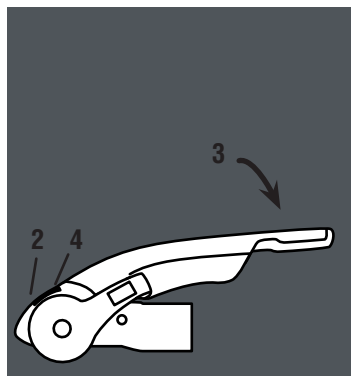
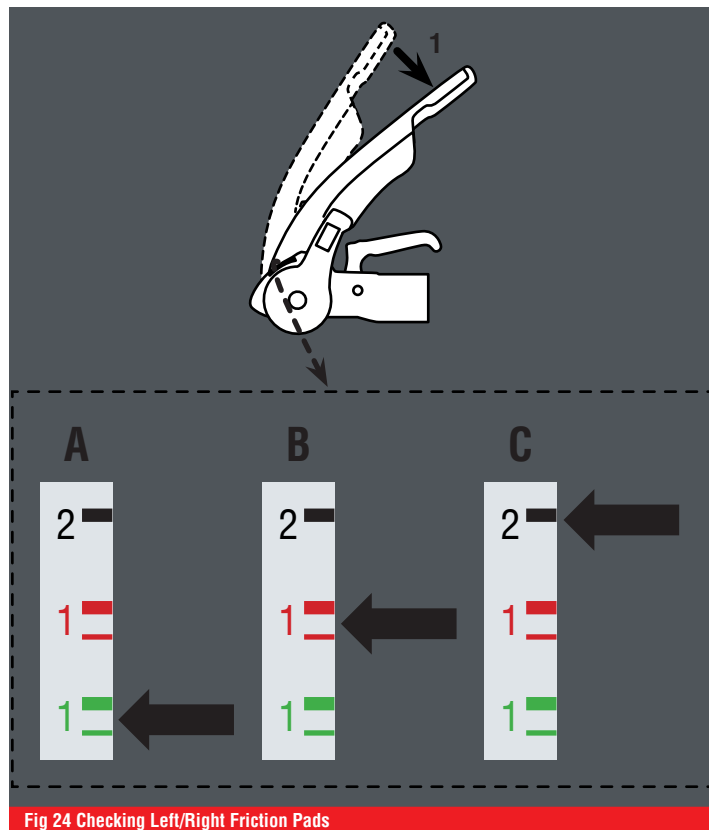

Fig 22 Correct Engagement With Towball
Fig 24 Checking Left/Right Friction Pads
The coupling is correctly engaged when the green edge of the safety indicator button is visible (Fig 22/Item 2).
To operate the stabiliser (once coupled to the towball), simply press the stabiliser handle down as far as it will go (Fig 22/Item 3).
To ensure the stabiliser is correctly coupled, check the arrowhead lines up with the black line marked 2 (Fig 22 /Item 4 and Fig 24/C).
2. Push the stabiliser handle down until resistance is felt (ie. the friction pads are in contact with the ball but not yet under pressure) (Fig 24/Item 1).
3. Check the position of the arrowhead on the arm of the stabiliser. If it lines up with the two green lines then the friction pads are still as new (Fig 24/A).
4. If the arrowhead lines up with the two red lines then the friction pads are worn and should be replaced immediately (Fig 24/B).
When the stabiliser handle is correctly applied, the arrowhead should line up with the black line marked 2 (Fig 24/C).